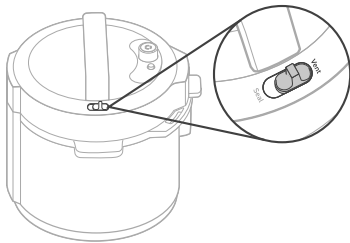

Figure 1.2
- When cooking with a non-pressurized cooking function, always move the steam release switch to 'Vent'. **[Figure 1.2]**